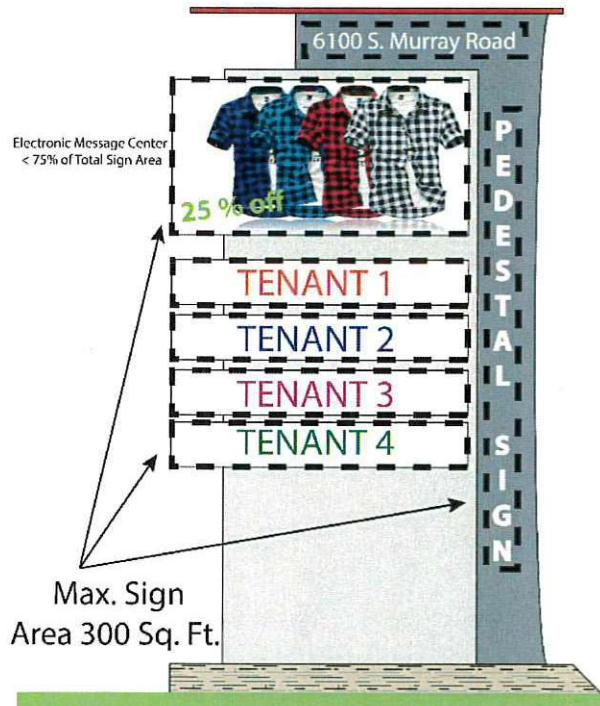

Figure 4
e. The regulated area of a pedestal sign shall include all parts of the sign or structure that contain identification (words or symbols) and information (*See Figure 4*).